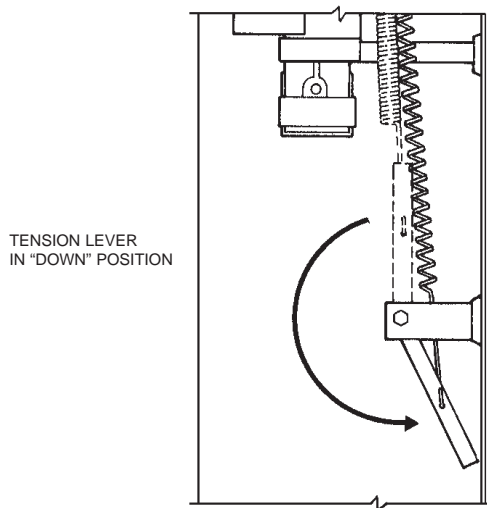

FIGURE 8-7
21. Lower tension lever to “DOWN” position. See Figure 8-7.